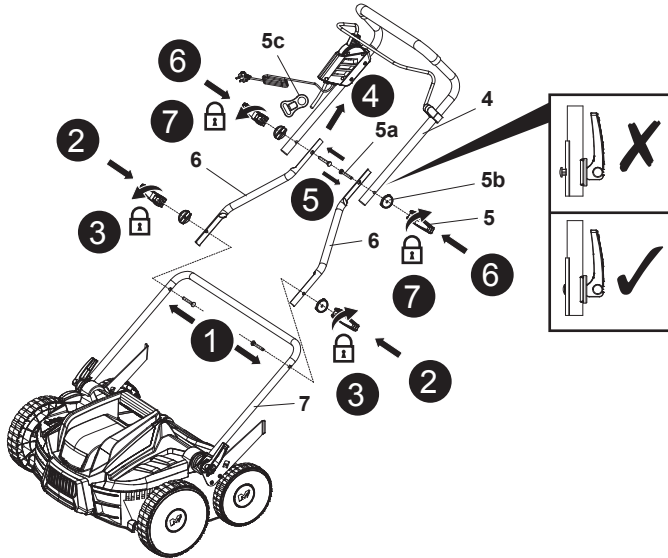

Fig. 2
5. Align the mounting holes of the middle handle bar (6) with the lower handle bar (7) and hold it in place, then pass the mounting bolt (5a) through the mounting holes (Fig. 2, step 1).
6. Check the orientation of flanges (5b) and align their slots onto one of the middle handle bars (6), then attach the clamp lever (5) onto the mounting bolt (5a) (Fig. 2, step 2).
7. Secure the handle assembly by folding up the clamp lever (5) towards the middle handle bars (6). If clamp lever (5) cannot be folded, loosen it and fold again. If it is too loose, tighten it by turning the clamp lever (5) clockwise (Fig. 2, step 3).
8. Repeat the same steps (5-7) to fix the other middle handle bar (6).
9. Slide the cord retainer (5c) on the upper handle bar (4) on the switch side (Fig. 2, step 4) and keep it in position, then align the mounting holes of the upper handle bar (4) with the two middle handle bars (6) and hold it in place, then pass the mounting bolt (5a) through the mounting holes (Fig. 2, step 5).
10. Make sure that the interconnection cord (18) runs on the upper side of the handle bars (4, 6, 7).
11. Check the orientation of flanges (5b) and align their slots onto the upper handle bar (4) firstly, then attach the clamp lever (5) onto the mounting bolt (5a) (Fig. 2, step 6).
- Secure the handle assembly by folding up the clamp lever (5) towards the upper handle bar (4). If clamp lever (5) cannot be folded, loosen it and fold again. If it is too loose, tighten it by turning the clamp lever (5) clockwise (Fig. 2, step 7).